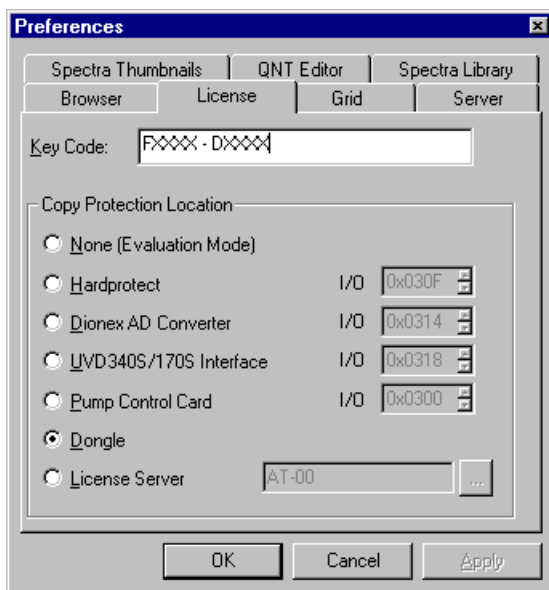

Figure B-5. Preferences: License Page
5. Select **File>Preferences** to open the Preferences dialog box (see Figure B-5). Select the **License** tab and click **Dongle**. Enter the **Key Code** exactly as it appears on the Chromeleon Software License key code sheet. Click **OK**.